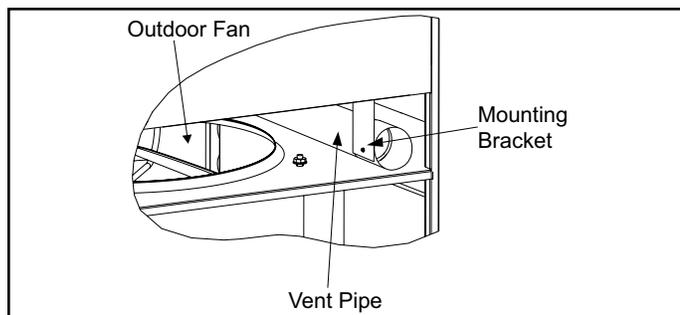

Figure 3. Locating Vent Pipe and Extension
- The vent pipe and vent pipe extension is located to the right of the outdoor fan (see Figure 3).